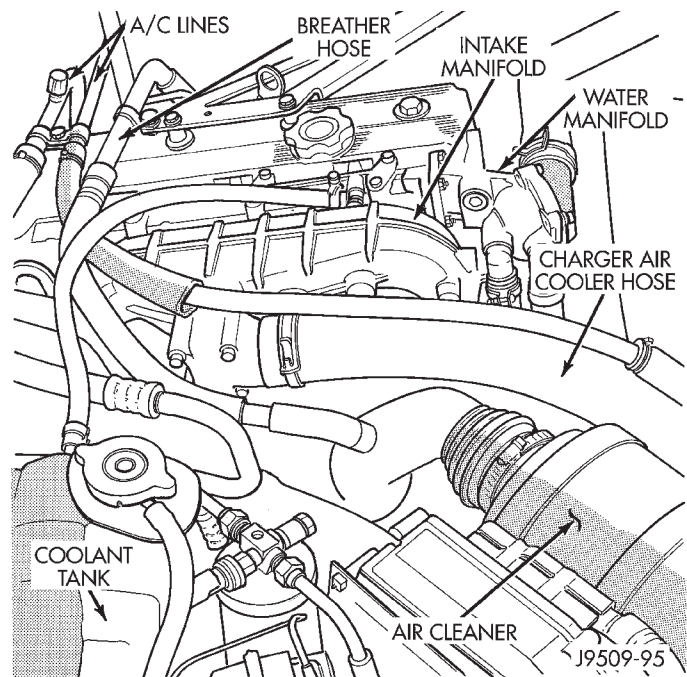

Fig. 9 Right side of Engine
- (3) Drain the cooling system (refer to Group 7, Cooling).
- (4) Discharge the air conditioning system, if equipped (refer to Group 24, Heating and Air Conditioning for service procedures).
- (5) Remove the lower radiator hose.
- (6) Remove the upper radiator hose and coolant recovery hose (Fig. 9).
- (7) Remove upper crossmember, refer to Group 23, Body Components for procedure.
- (8) Remove air cleaner hose from turbocharger and breather hose.
- (9) Remove the air cleaner assembly.
- (10) Disconnect A/C lines from condenser (Refer to Group 24, Heating and Air Conditioning) cap lines to keep foreign particles out.
- (11) Tip radiator, A/C condenser, and fan shroud assembly away from engine.
- (12) Remove fan and set fan inside fan shroud.
- (13) Remove fan, fan shroud, radiator, and A/C condenser as an assembly.
- (14) Disconnect the heater hoses and coolant recovery bottle hose (Fig. 9).
- (15) Remove fuel lines, fuel filter, refer to Group 14, Fuel Systems.
- (16) If equipped with air conditioning, remove the service valves and cap the compressor ports (refer to Group 14, Fuel System).